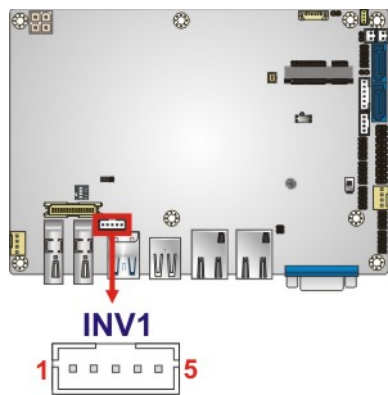

Figure 3-14: LVDS Backlight Inverter Connector
- CN Location: See Figure 3-14